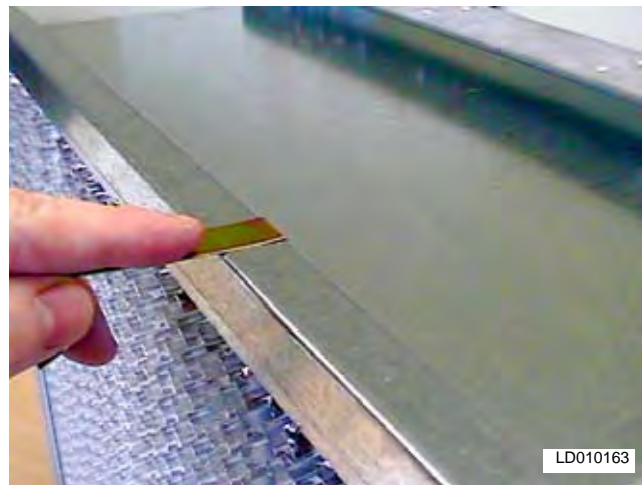

FIG. 4-34 – PREFILTER LATCH AFTER INSTALLATION ONTO FILTER HEADER.
6. To install the prefilter latches, slide the end of the latch with the 180° turn, over the edge of the header, *as shown in Fig. 4-34*. The latch should be installed at the approximate midpoint of the filter leg.
The prefilter latch should be slid over the header *as shown in Fig. 4-34*.